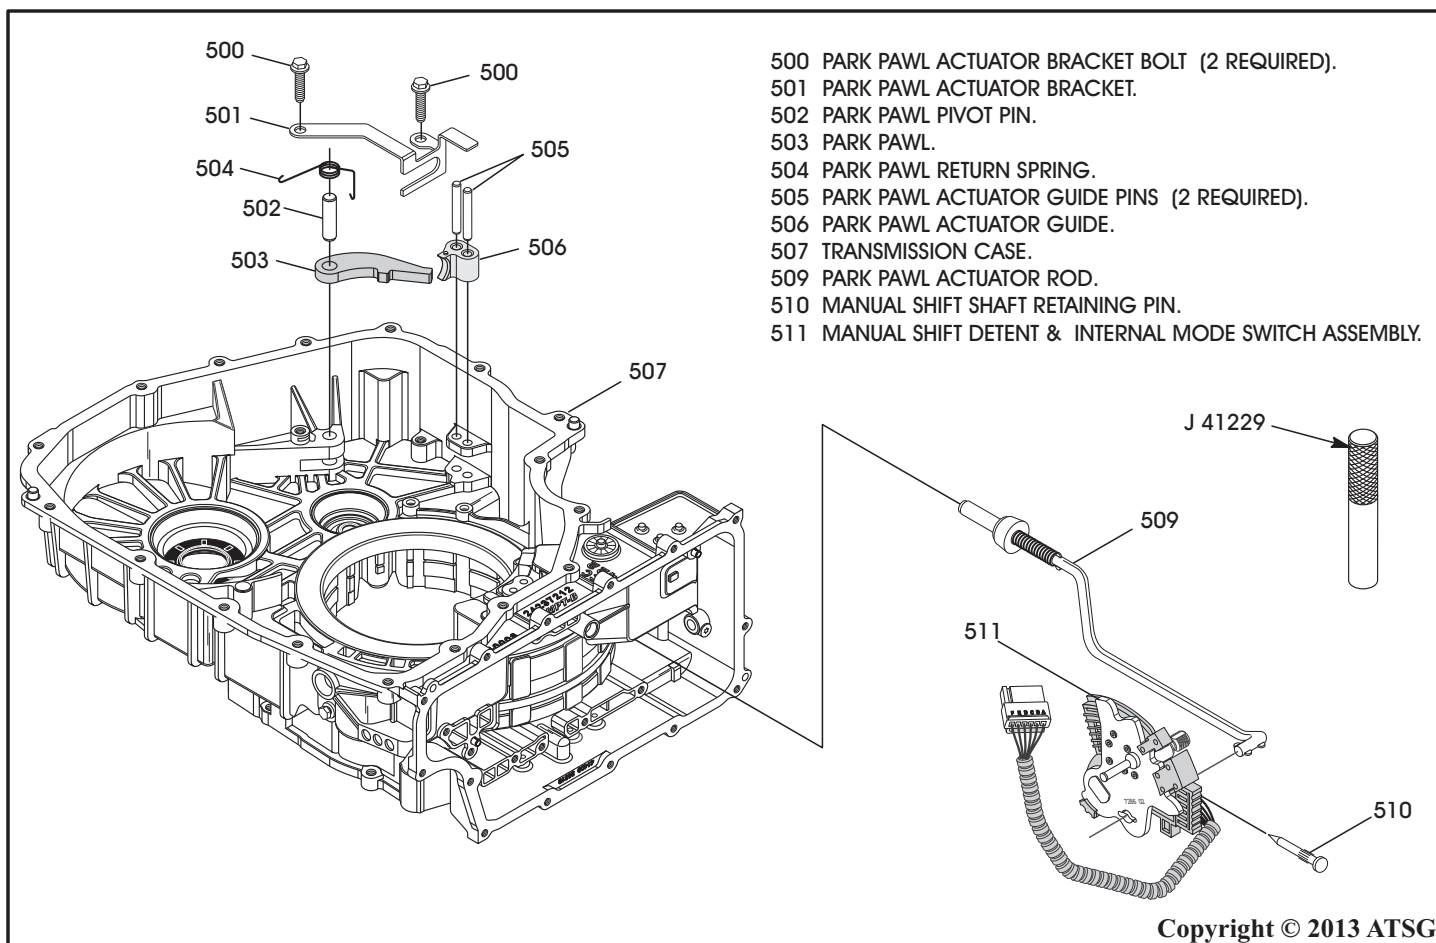

Figure 82
14. Install the park pawl & linkage in the case using Figure 82 as a guide.
16. Install the park rod into the IMS detent lever and install the assembly into the case, as shown in Figure 82, rotating the assembly clockwise so the park rod will fit through the case opening.